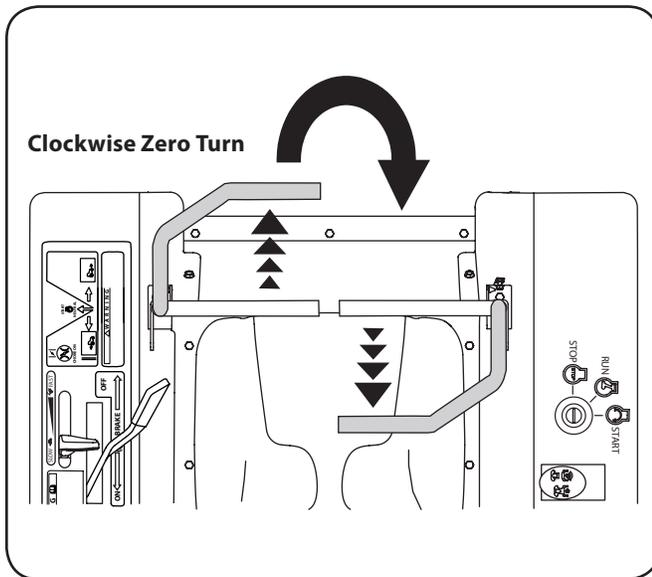

Figure 5-8
2. To turn clockwise, move the left control lever forward while simultaneously moving the right control lever rearward. See Fig. 5-8.